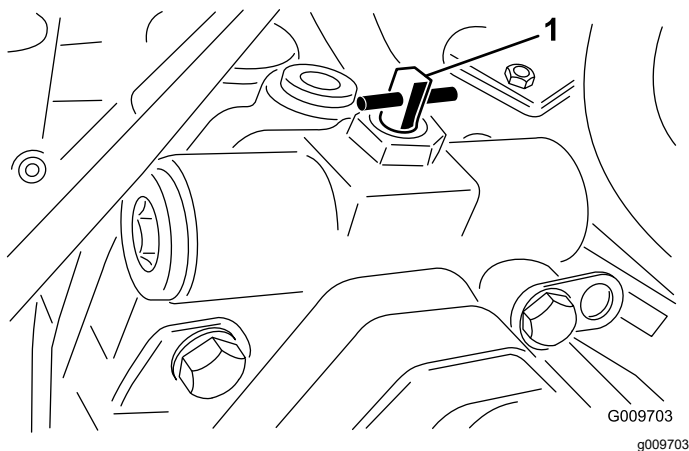

Figure 44
- Rotate the bypass valve 90° (1/4 turn) in either direction to open it and allow fluid to bypass internally (Figure 44).
2. Rotate the bypass valve 90° (1/4 turn) in either direction to open it and allow fluid to bypass internally (Figure 44).